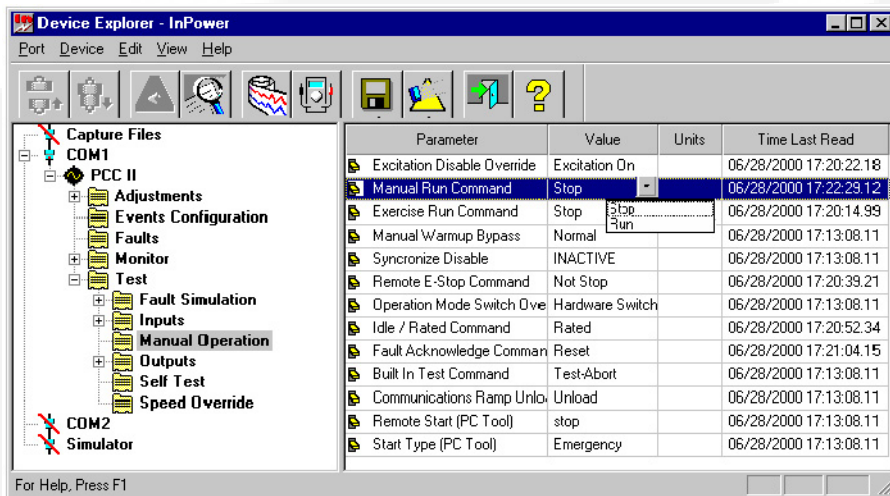

FIGURE 94. MANUAL OPERATION - MANUAL RUN COMMAND
**Example:** In this example, InPower is used to initiate a **Manual Run Command**. Make sure that the Run/Off/Auto switch, on the genset control panel, is set to **Auto**. Double click on the **Manual Run Command** Value cell, and a drop-down list arrow is displayed (refer to Figure 94). Click on the drop-down arrow and click on **Run**. To initiate the **Manual Run Command**, click on the **Save Trims** button, on the toolbar. To end the **Run** command double click on the Value cell again, click on the drop-down arrow and click on **Stop**, then click on the **Save Trims** button, on the toolbar.